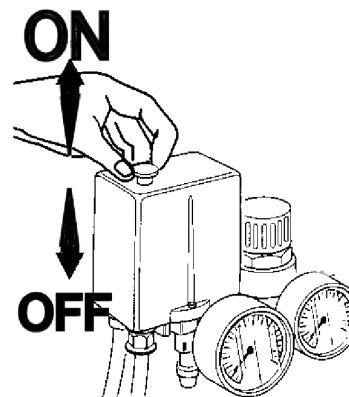

Fig 3 Pressure switch On / Off
- Pull up the button on the pressure switch (10) (fig 1). This will 'click' up into position. See figures 3 and 4 below for more detail. The motor/ pump unit will now start to run.